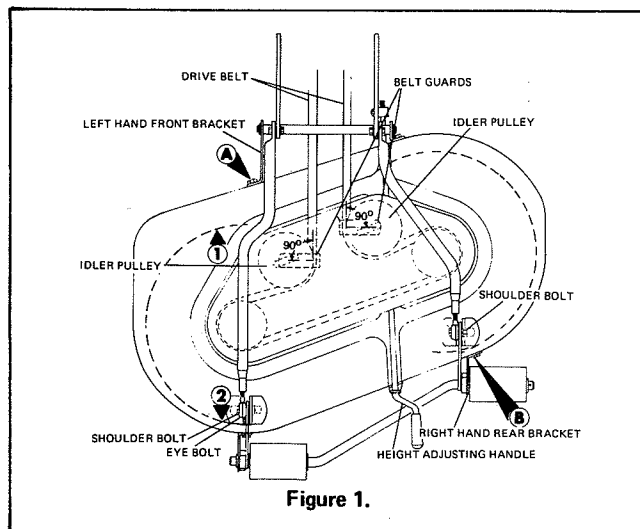

Figure 1.
1. Position the mower under the tractor and attach the mower hitch arms to the rear holes of the tractor front hitch, using pins and spring clips. Figure 1. Mower should be on flat surface for adjustments.
2. Loosen the left hand front bracket "A" and the right hand rear bracket "B" (See Figure 1).
3. Remove the two shoulder bolts that hold adjusting arms (See Figure 1). Be sure all roller bracket linkage is free to slide in slotted holes.
4. Establish points 1 and 2 (See Figure 1). Rotate blades to point 1 and 2. Raise the mower using the height adjusting handle (See Figure 1) so that the blade tip at point 1 is 1/8" higher than point 2. When measuring this dimension, always rotate the blade so that all measurements are made using the same blade tip (i.e., after measuring the front tip, rotate the blade so that the rear measurement is made using the same blade tip).
7. Replace the shoulder bolts. If the holes do not line up (without pressure) screw the eye bolt (See Figure 1) into or out of the adjusting arms as necessary.
8. After the initial running period, belt stretch may require repositioning of the idler pulleys. Remove the fastener holding the belt cover in place and remove the cover. Loosen the attaching hardware and move the pulleys to increase the tension on the belt. (Move both pulleys). Tighten previously loosened hardware and replace belt cover and fasteners. Belt guards should be positioned as shown in Figure 1. Belt guards **must not** touch the belt when PTO handle is in the "engaged" position.